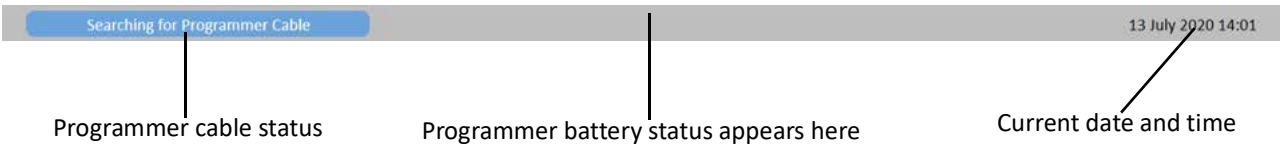

Figure 3-5. Start Screen Footer Information
Important status notifications appear at the bottom of the Start screen along with the current date and time (Figure 3-5).
- **Programmer Cable Connected** — Wireless link between tablet and programmer cable is established. Status background color is blue. Programmer cable controller status light is fully lit (see Figure 3-5). Connection buttons are enabled.
- **Searching for Programmer Cable** — Wireless link between tablet and programmer cable is not established. Status background color is white with pulsing border. Controller status light is partially lit (see Figure 3-5). Communication buttons are disabled.